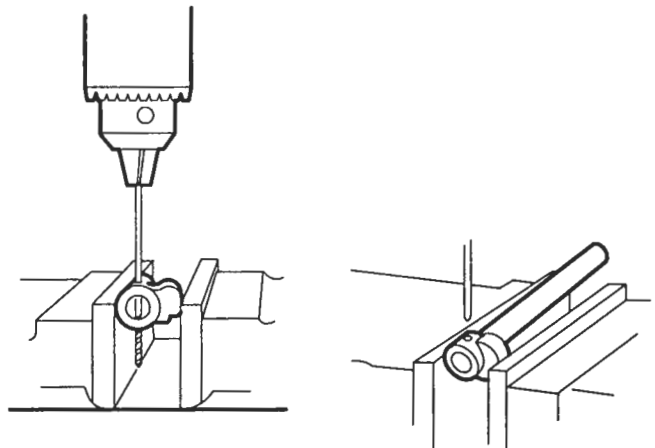

Figure 2. Aligning Drill Bit and Drilling Shaft
2. Insert the replacement shaft into the cam until the end of the shaft is recessed 1/8 inch from the end of the cam. Start the drill and bore a hole through the shaft (Figure 2.) Withdraw the drill bit, install the pin handle through the hole and remove the shaft from the drill press.